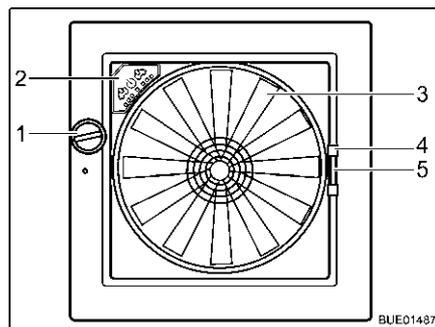

Fig. 62 Skylight Omni-Vent
Opening: ■ Turn the knob (Fig. 62,1) until the desired opening angle is reached.
Closing: ■ Turn the knob (Fig. 62,1) until the skylight is fully closed.
Closing: ■ Using the handle (Fig. 62,4) pull the insect screen across to the other side of the frame.
Closing: ■ Press together the handle (Fig. 62,5) of the shade.
- Fan** If the skylight is open, the interior can be ventilated with the 6-speed fan (Fig. 62,3). The fan is operated via the operating panel (Fig. 62,2).